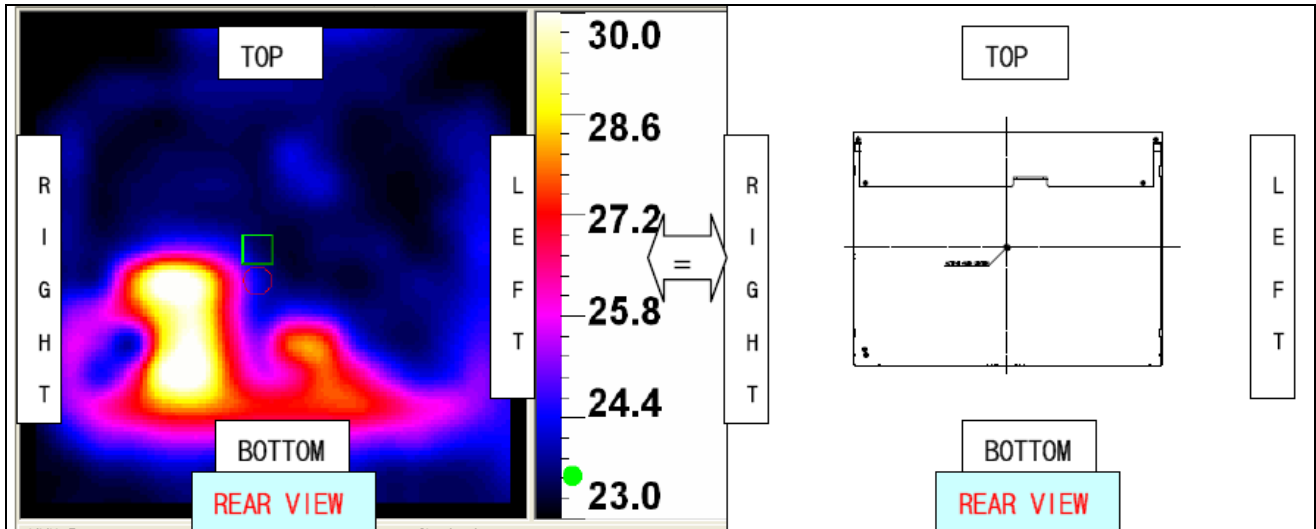

Figure 1. Thermal Map Showing the Heat Imaging of the LVM121XSB-02-L01 (REAR VIEW)
- (1) The spike noise causes the mis-operation of circuits. It should be lower than following voltage :  $V = \pm 200\text{mV}$  (Over and under shoot voltage).
- (2) Response time depends on the temperature. (In lower temperature, it becomes longer.)
- (3) Be careful for condensation at sudden temperature change. Condensation makes damage to polarizer or electrical contacted parts. And after fading condensation, smear or spot will occur.
- (4) When fixed patterns are displayed for a long time, remnant image is likely to occur.
- (5) A module has high frequency circuit. It might be necessary to shield the electromagnetic noise in your integrating system.
- (6) The thermal map showing the heat imaging of the module (LVM121XSB-02-L01) is shown in figure 1. Please reference the thermal map for optimum thermal design to maximize the MTBF of LED life.